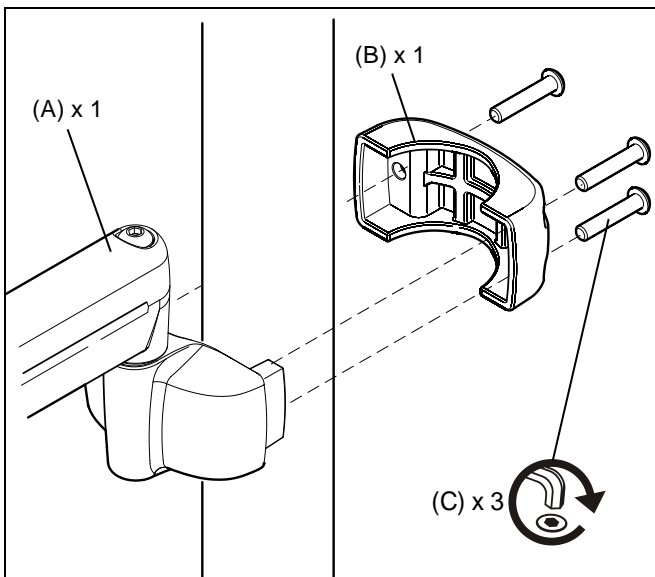

Figure 1
1. Determine desired mounting location taking display size and mount turn radius into consideration. (See Figure 1)
2. Loosely assembly swing arm assembly (A) to back mounting bracket (B) using three Button head screws (C). (See Figure 1)